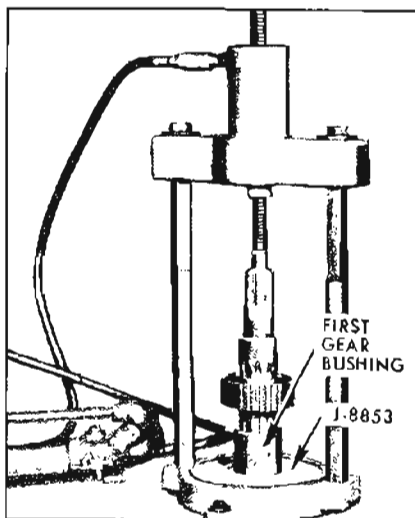

Figure 4-55—Installing First Speed Gear
1. From rear of mainshaft, assemble first and second speed clutch assembly to mainshaft (sliding clutch sleeve taper toward the rear, hub to the front) and, using J-8853, press the first gear bushing on shaft. See Figure 4-55.